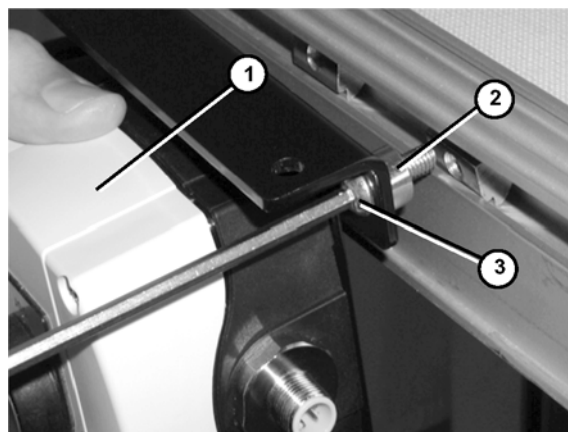

Figure 8
2. Attach button box kit (**Figure 8, item 1**) to conveyor with spacers (**Figure 8, item 2**) and screws (**Figure 8, item 3**).